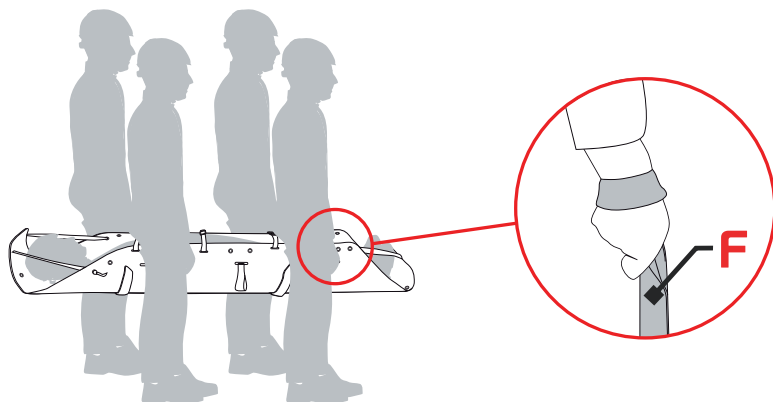

Fig.16
- **Transportation with the handles (F) (fig. 16)**